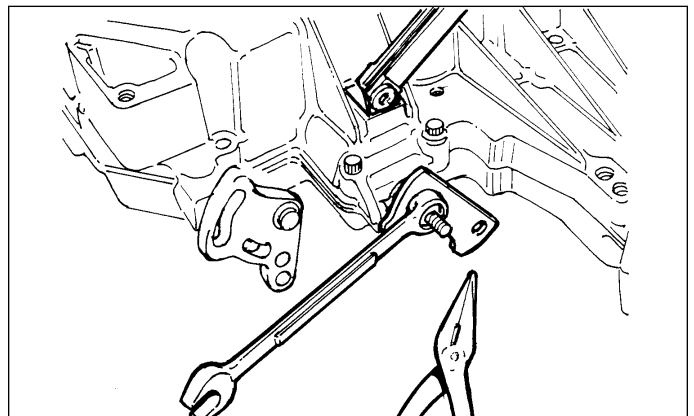

Figure D-45. Brake Adjustment
25. Position the lower housing on the upper housing and secure with capscrews. Torque capscrews to **135-165 in-lbs.** in the sequence shown in Figure D-45.